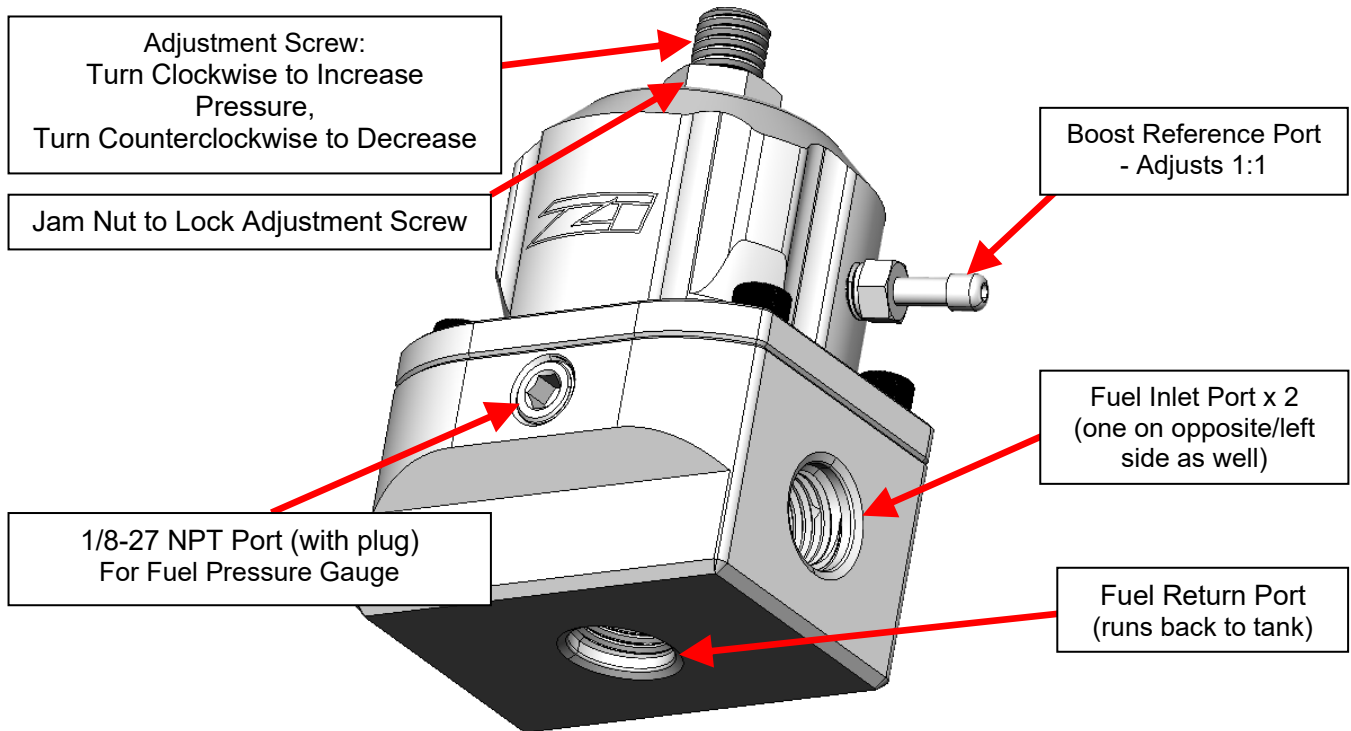

Figure 40
1. Your Z1 Fuel Pressure Regulator will arrive mostly assembled except for the Orb fittings/plugs for the Fuel Lines. *Figure 40* below shows the Regulator and what each component/port is used for: